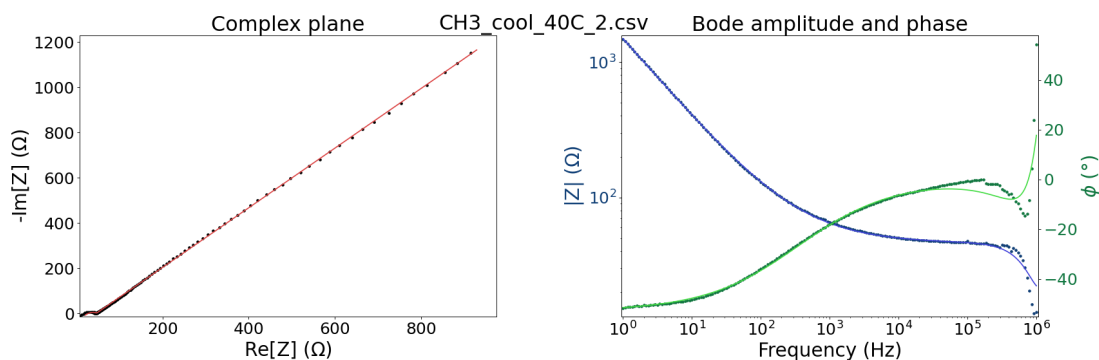

Figure 20: Refinement of the fit of the  $\text{RbOH} \cdot x\text{H}_2\text{O}$  spectrum.
9. To finalize the fit, a refinement is in order. Using **Calculate>Simple refinement**, Figure 20 is obtained. Apparently, the change in step (8) was not an improvement to the overall fit.